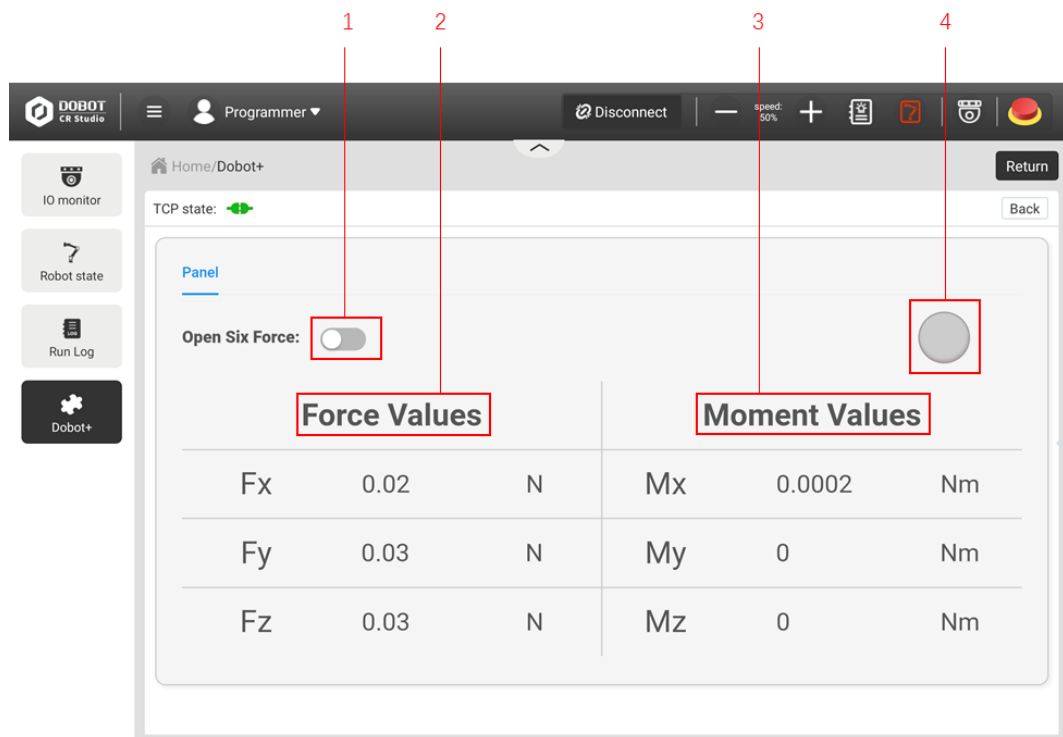

Figure 3.9 Panel page
Step 2 Double-click the **ForceTorqueSensor** plug-in to install it. Then the Panel tab will display on the screen, as shown in Figure 3.9. The parameters in Panel tab are described in Table 3.2.